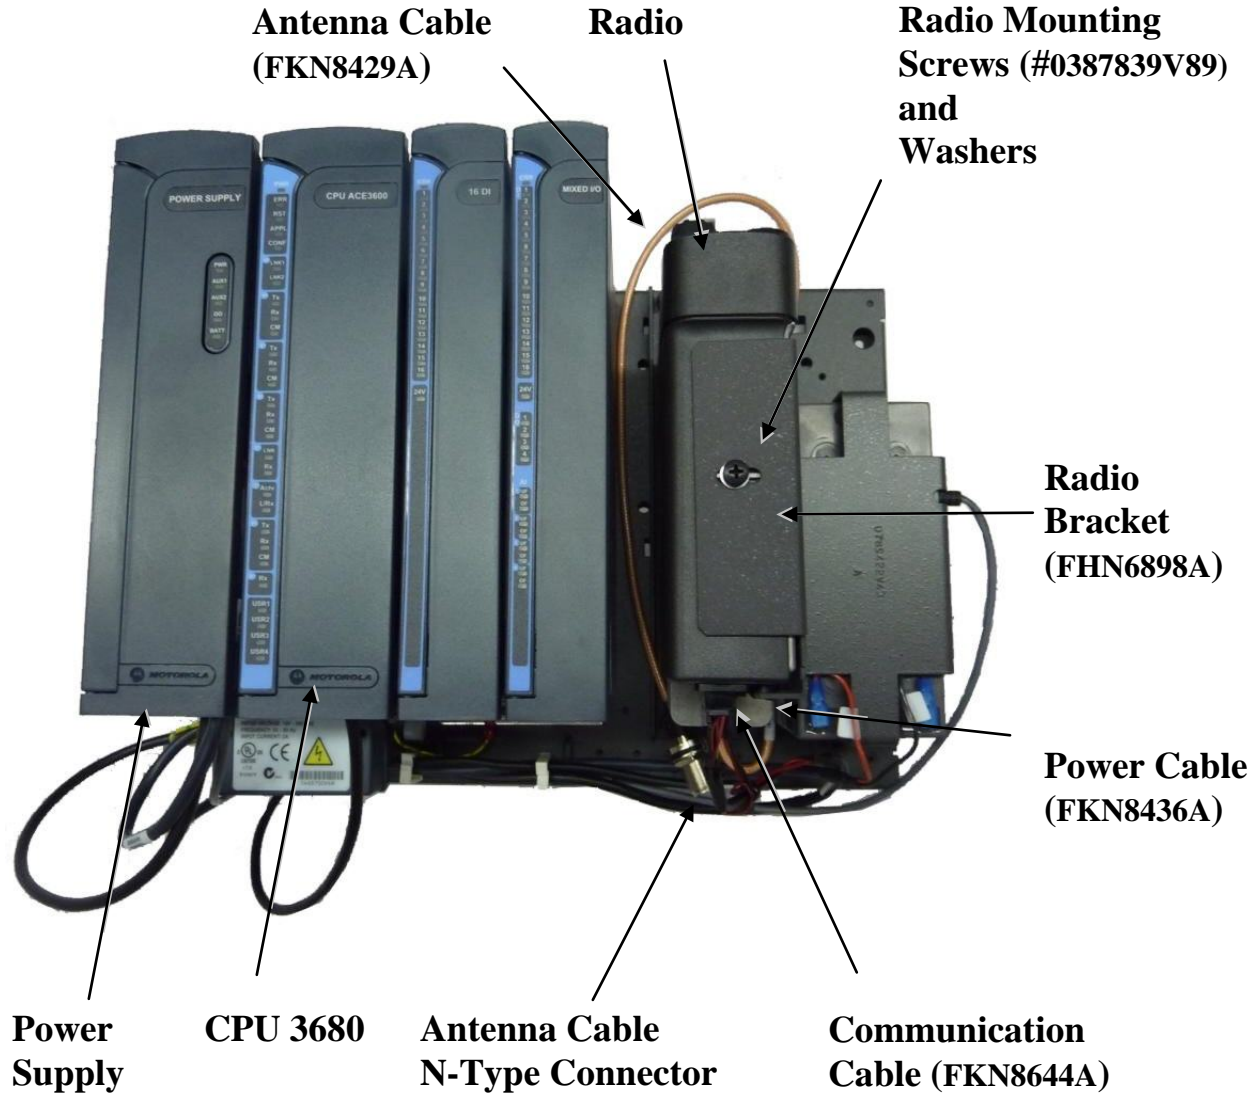

Figure 21-53 MotoTrbo Radio Installed on ACE3600 Chassis
4. Mount the radio/bracket unit onto the RTU chassis near the CPU and I/O modules, using the four built-in screws. (See Figure 21-53.)